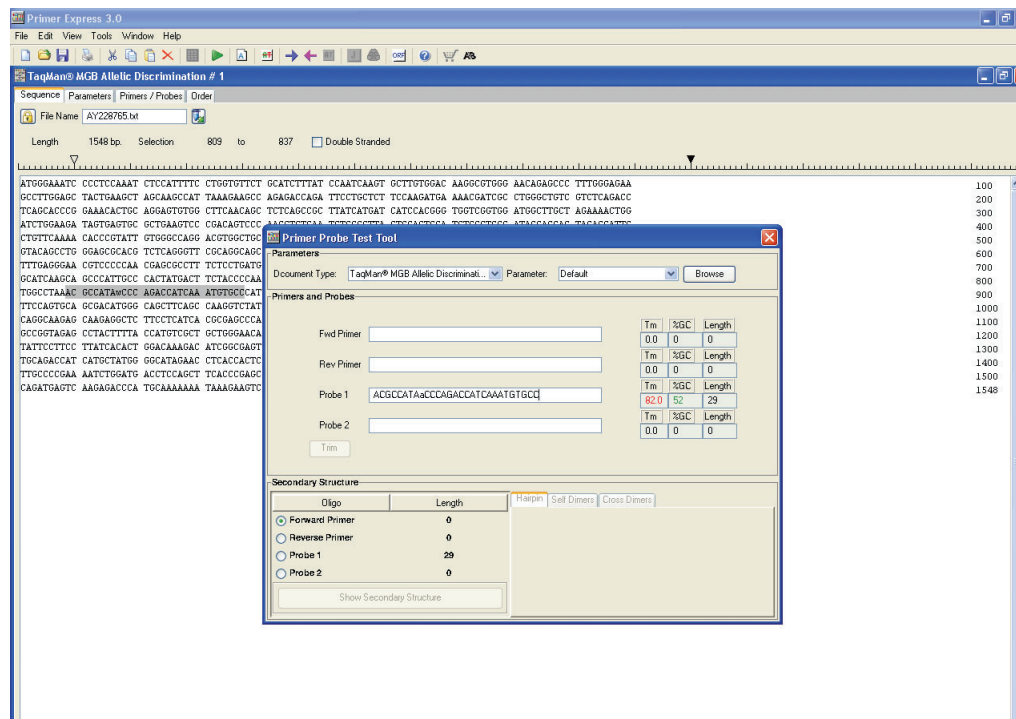

Figure 13. Primer Probe Test Tool dialog box
6. Paste (**Ctrl+V**) the annotated sequence in the Probe 1 field. The software displays the Tm, %GC, and the oligonucleotide length to the right of the Probe 1 field (see “Figure 13. Primer Probe Test Tool dialog box” on page 38). Note that the original Allele 1 variant base appears in lower case on the Primer Probe Test Tool.